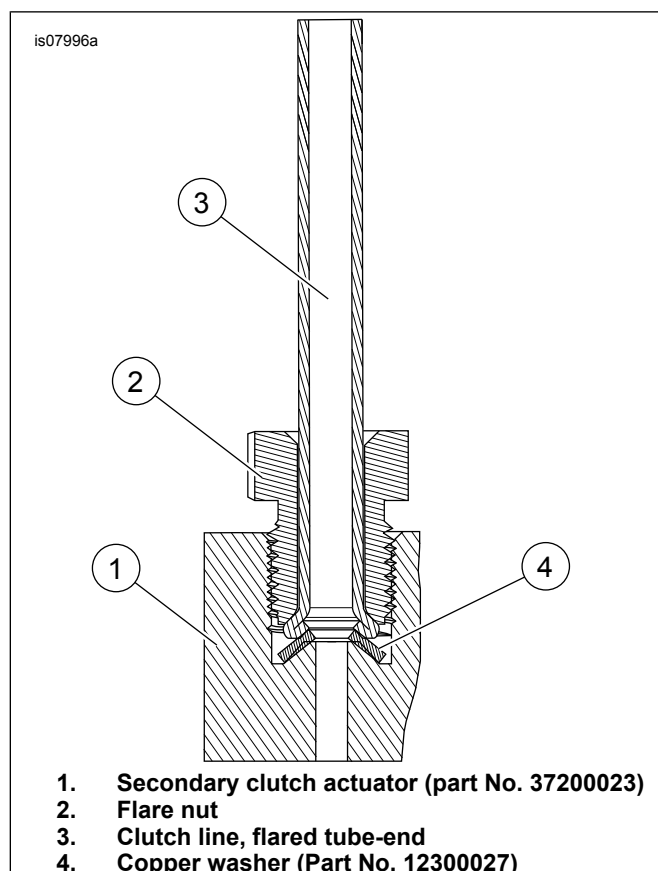

Figure 9. Copper Washer Orientation
6. See Figure 9. Hold secondary clutch actuator upright. Install copper washer (Part No. 12300027) in the actuator cavity. Allow copper washer to self-center.